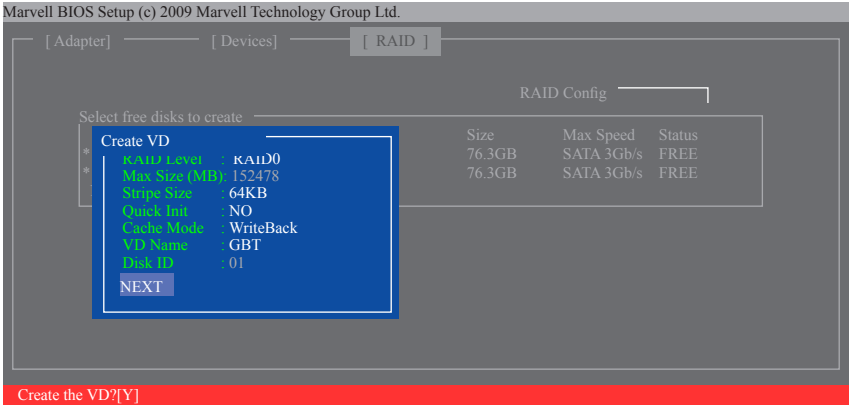

Figure 8
6. **NEXT:** After completing the settings above, move to **NEXT** and press <Enter> to begin creating the array. When prompted to confirm, press <Y> to confirm or <N> to cancel (Figure 8).